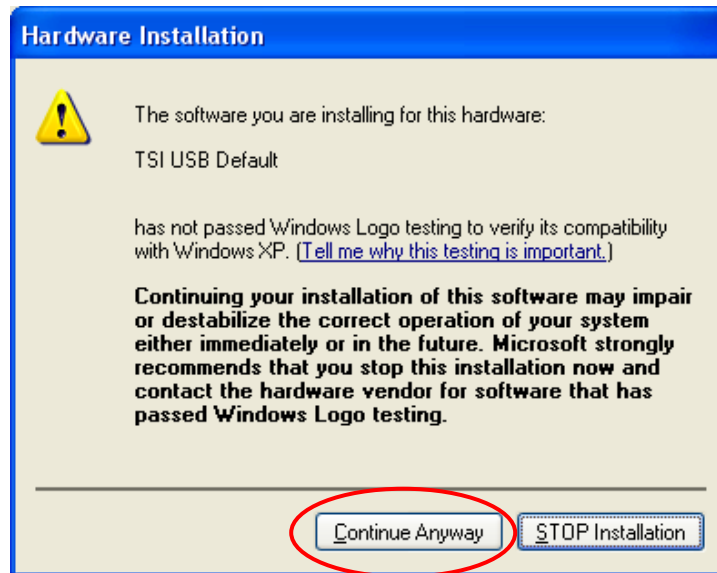

Figure 15
6. Select the **Continue Anyway** button (Figure 15).